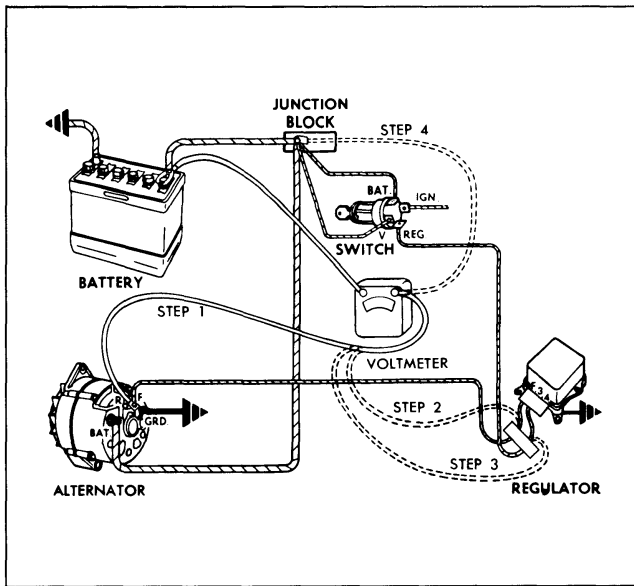

Fig. 11-30 Checking for Excessive Resistance
7. Reconnect field lead to alternator and connect voltmeter between field lead connection at alternator and positive battery terminal (Fig. 11-30). With ignition on, reading should be less than 0.3 volts. If